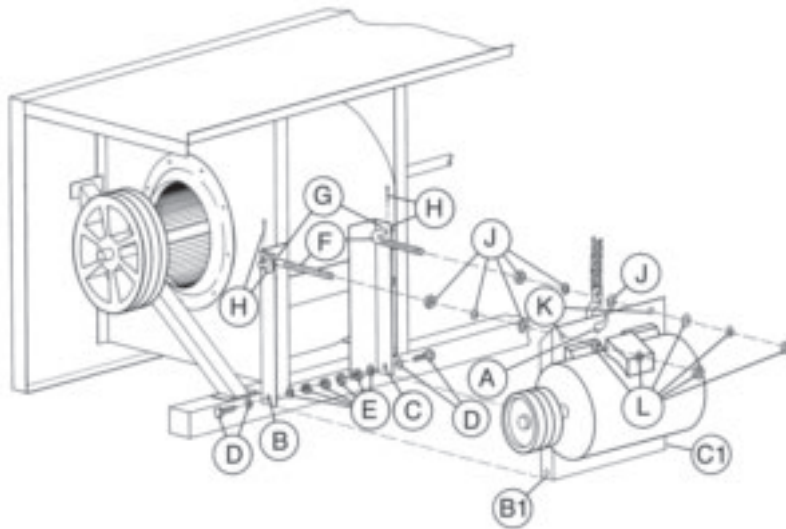

Figure 19 – Motor Installation
1. Study Figure 19 before installing the motor bases on the unit.